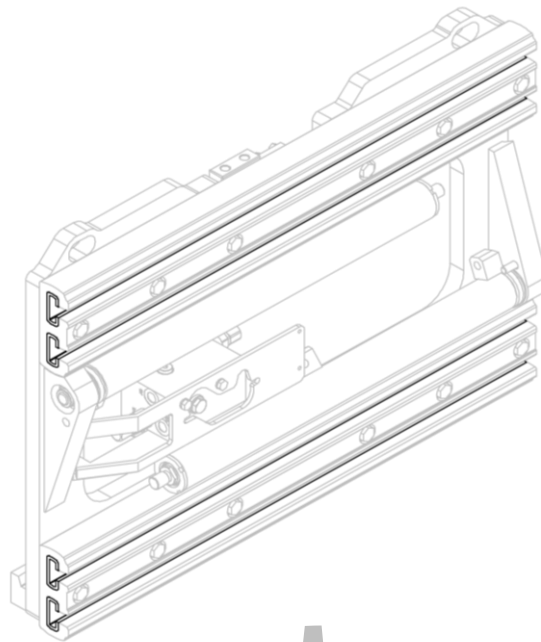
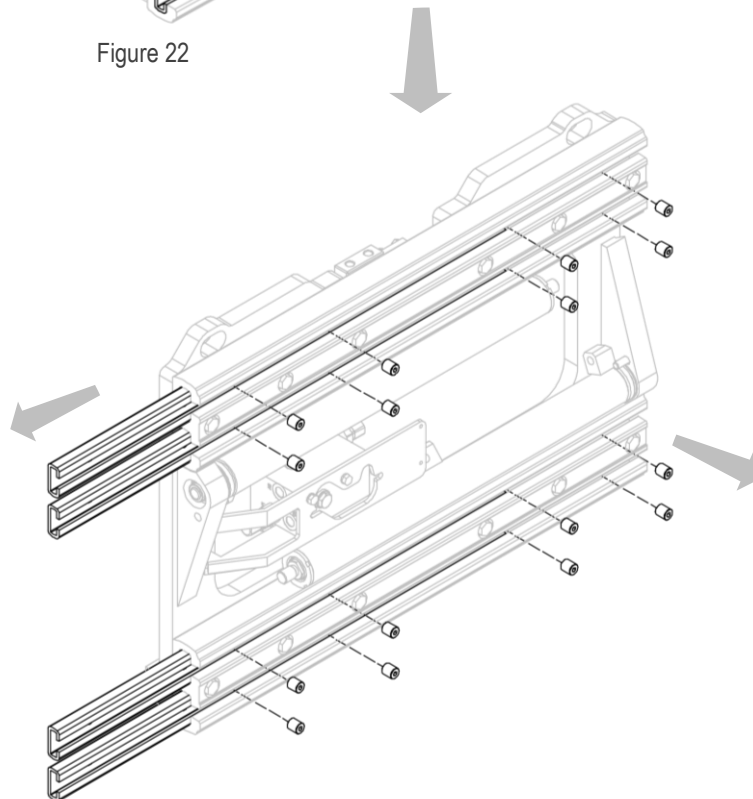

Figure 22
Figure 23
3. Remove the nylon bushes after unscrewing the corresponding grub screws (see *Figure 22* and *Figure 23*).